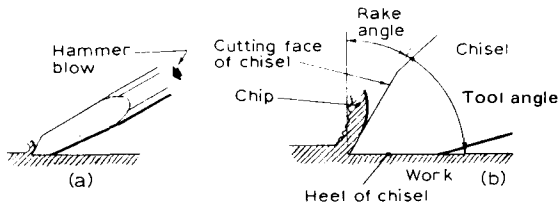
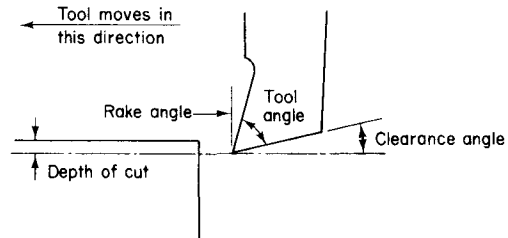

Fig. 4.48
Fig. 4.50 The angles on a cutting tool
**The clearance angle.** Fig. 4.48 (a) shows a cold chisel taking a continuous cut. The energy needed to cut the metal is supplied by the hammer blow. Fig. 4.48 (b) shows an enlarged drawing of the chisel point. The heel of the
**Rake angle.** It will be seen from Fig. 4.48 that the metal being cut moves up the cutting face of the chisel. The angle that the cutting face of a tool makes with a line perpendicular to the work surface is called the *rake angle*. The rake angle is very important indeed. When ductile metals are to be cut a large rake angle makes cutting easier and less effort will be expended in cutting. However, if the rake angle is made too large the tool point will be considerably weakened and a compromise must again be used. Fig. 4.50 shows all the tool angles previously discussed.